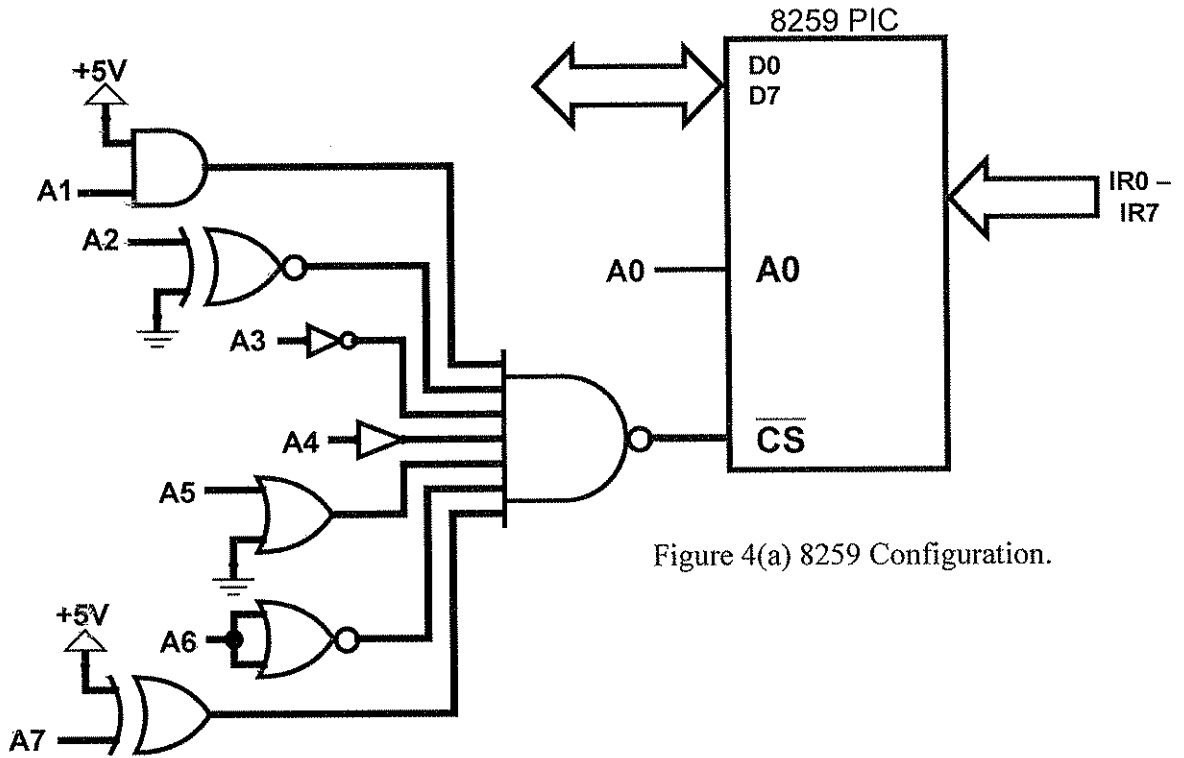

Figure 4(a) 8259 Configuration.
(a) The 8259 PIC is configured as shown in Figure 4(a).
- (ii) Write a program to initialize the 8259 using the port addresses in Figure 4(a). Also include comments for any instruction used. (6 marks)